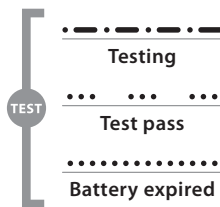

Figure 11 Status indicator in test mode
3. The outcome of the test is indicated as shown in Figure 11. During the test AIS messages are transmitted and will be received by all nearby vessels. Refer to section 4.5 for further information on display of AIS SART position and messages on other equipment.